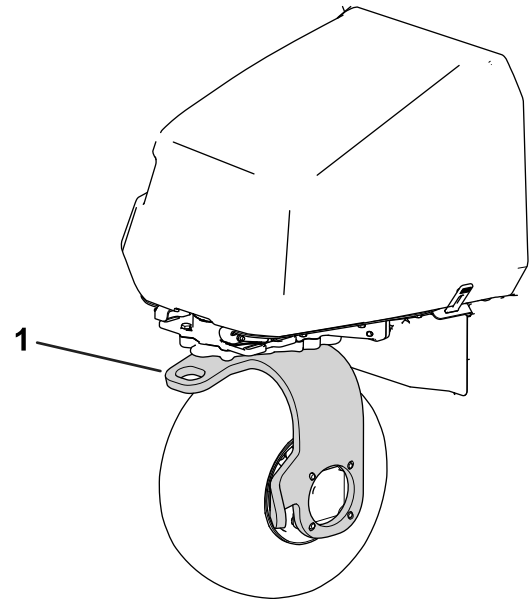

Figure 38
11. Use the rear castor fork to tow the machine (Figure 38).